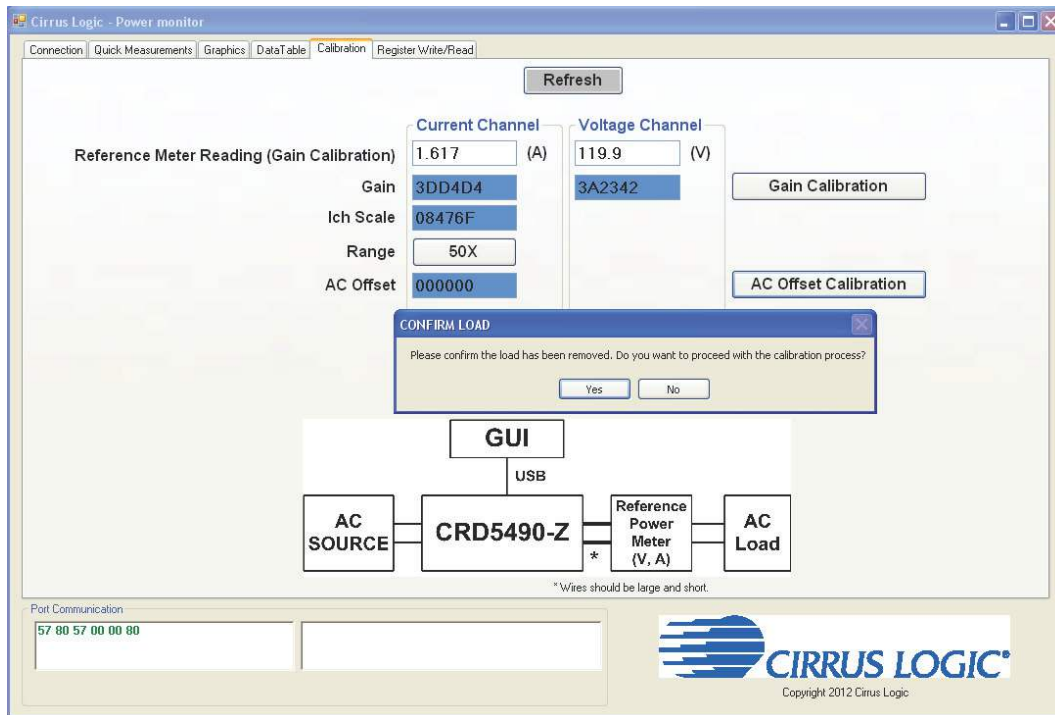

Figure 23. Calibration Tab with CONFIRM LOAD Window
- Confirm the load has been removed or turned off, and then click **Yes** from the CONFIRM LOAD window shown in Figure 23.